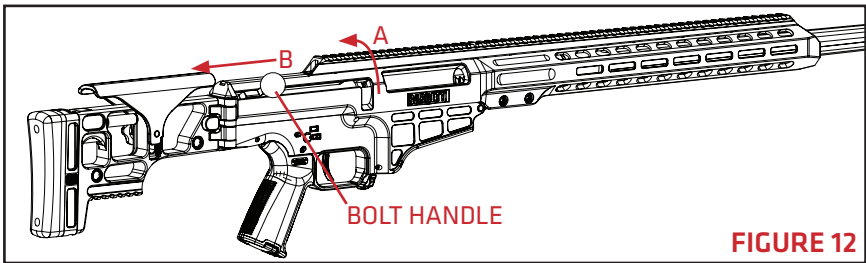

FIGURE 12
2. Rotate the bolt handle up (**FIGURE 12-A**) and pull to the rear (**FIGURE 12-B**).